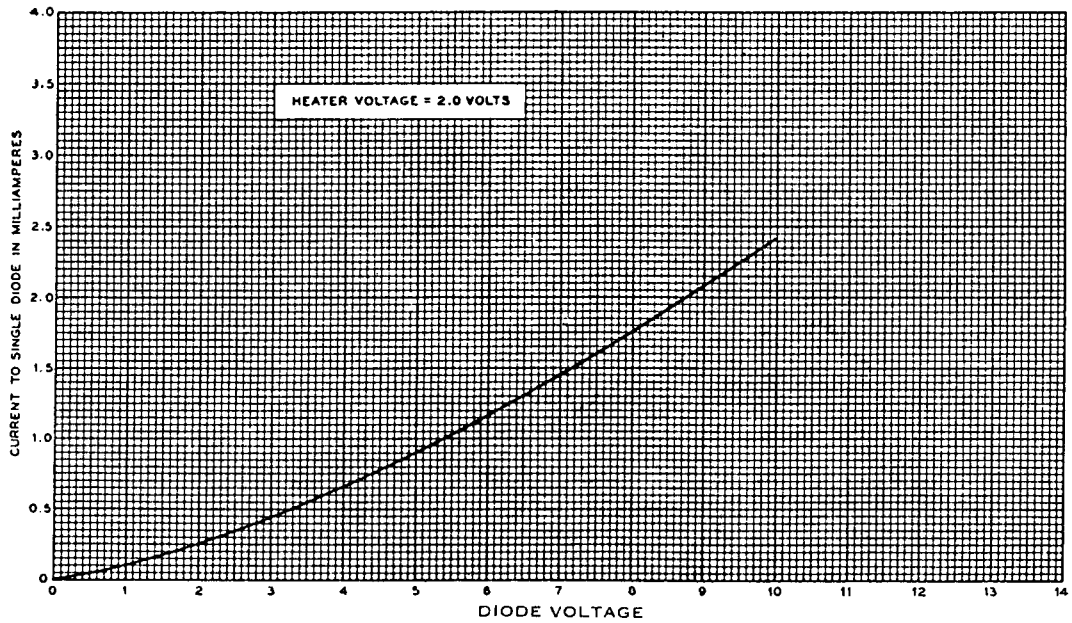

FIG. 8
**Diode Characteristics**—The current-voltage characteristic of a single diode is shown in Figure 8. The potential of each diode plate with respect to the cathode on the positive swing of the input voltage should be limited to a maximum value of  $+10$  volts. Rectification characteristics for a single diode are shown in Figure 9 for a number of values of impressed alternating input voltage. Each of these characteristic curves gives the relation between the direct voltage impressed on the diode plate and the average diode current as indicated by a direct-current microammeter for a constant impressed alternating input voltage of the value specified. Where the diode is used as a detector with the usual condenser-resistance circuit, the direct component of the voltage developed across the resistance by a given alternating-voltage input is given by the intercept of the load line corresponding to the load resistance with the rectification characteristic corresponding to the input voltage. Load lines for zero fixed bias are shown in Figure 9 for load resistance values of 0.25, 0.5 and 1.0 megohm.